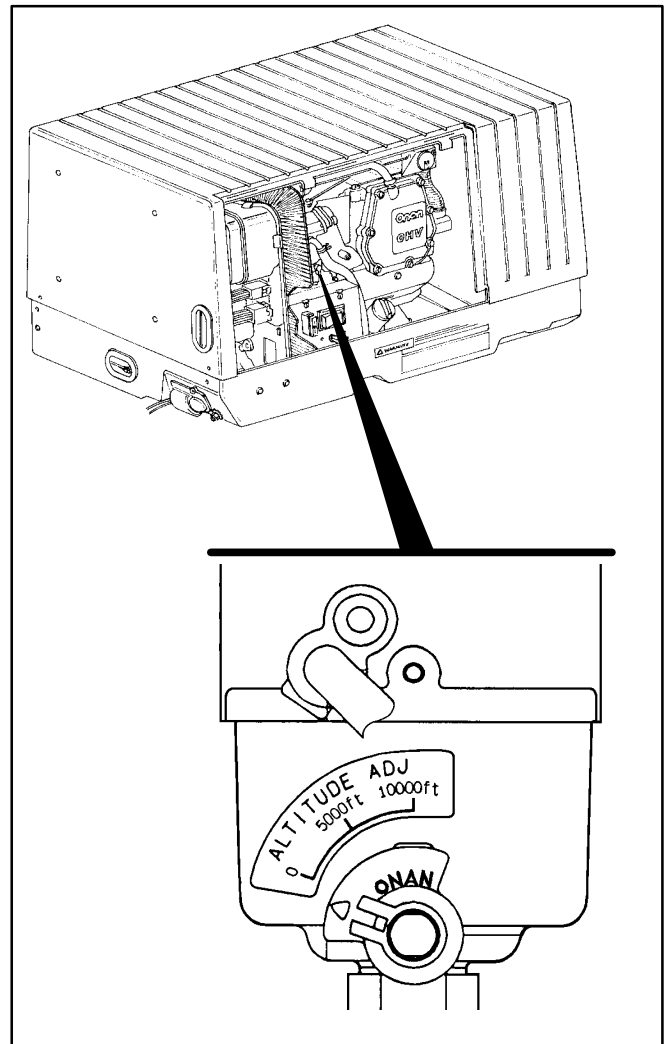

FIGURE 8. ALTITUDE ADJUST KNOB
2. Set the altitude adjust knob (Figure 8) for your altitude.
5. Set the altitude adjust knob (Figure 8) for your altitude.